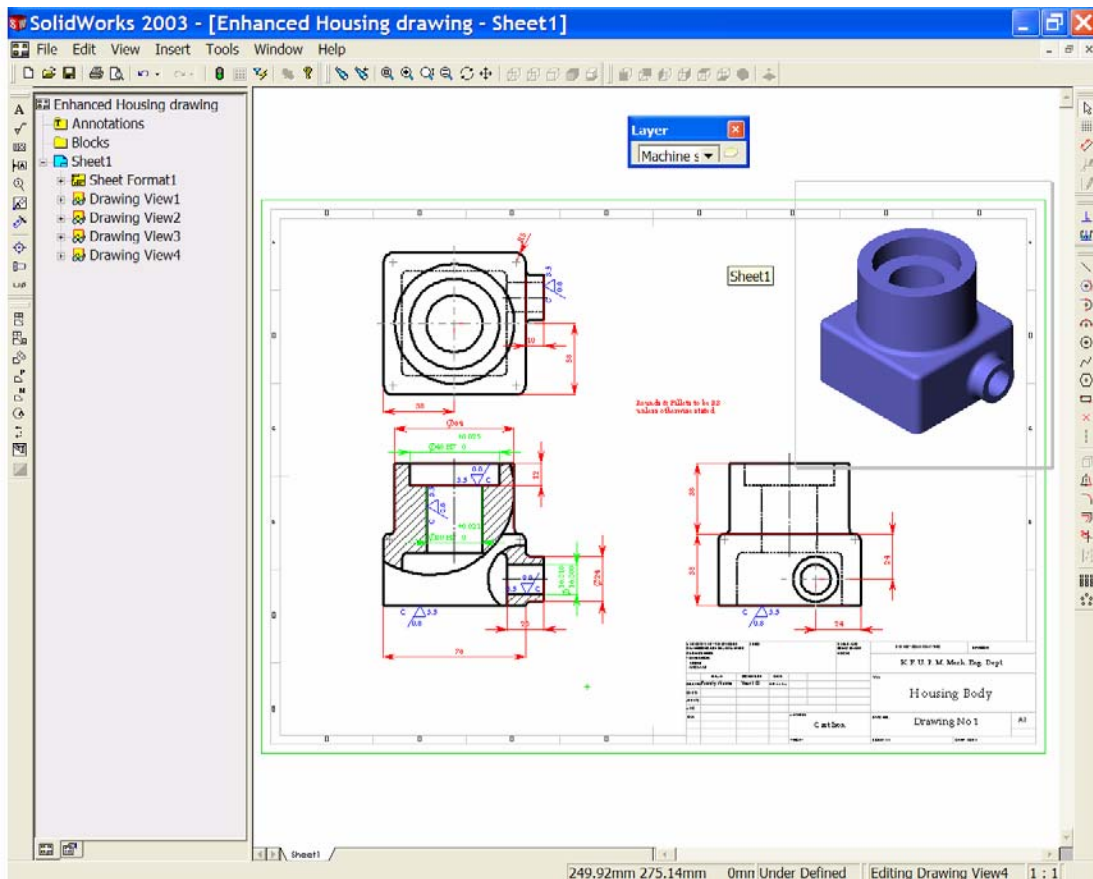

Figure 13
17. The dimensions and machine symbols may need to be moved a little if they overlap each other or if they are too close together. We may drag the dimensions or the symbols to better locations within the views by selecting them with the left button of the mouse and holding the button down as we drag. When you are finished your drawing should look similar to Figure 13.